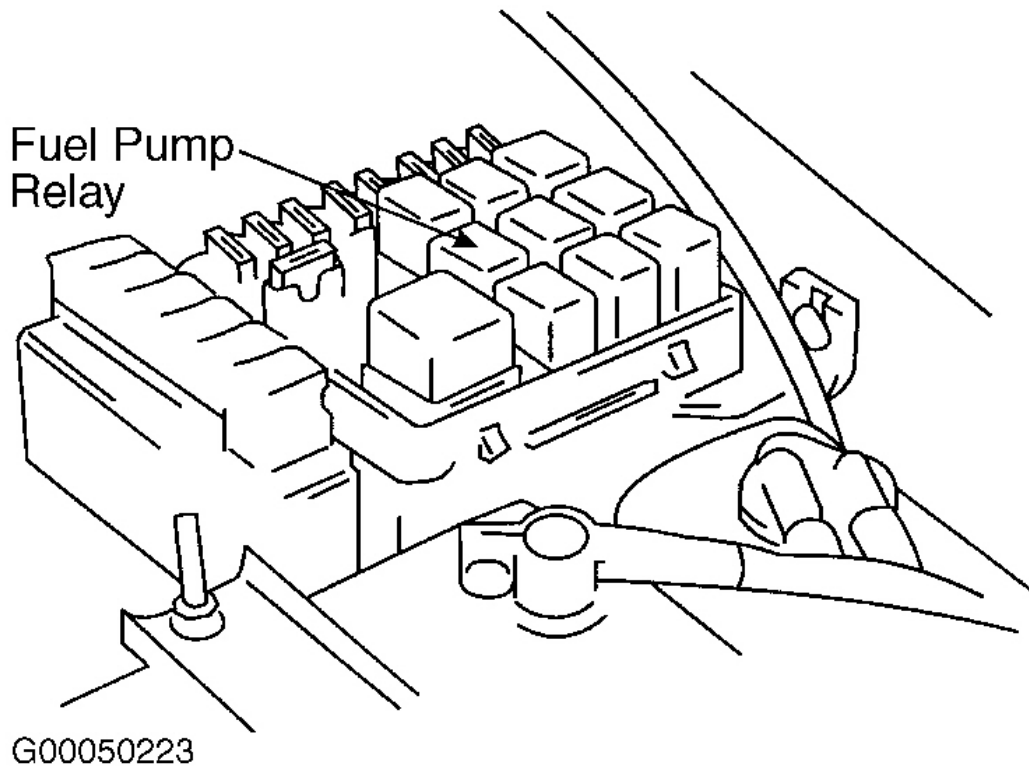

Fig. 3: Locating Fuel Pump Relay (Vitara)
3. On Vitara, remove fuel pump relay connector (relay with Pink wire). Fuel pump relay is located under driver's side of dash, near main relay. See **Fig. 3**.